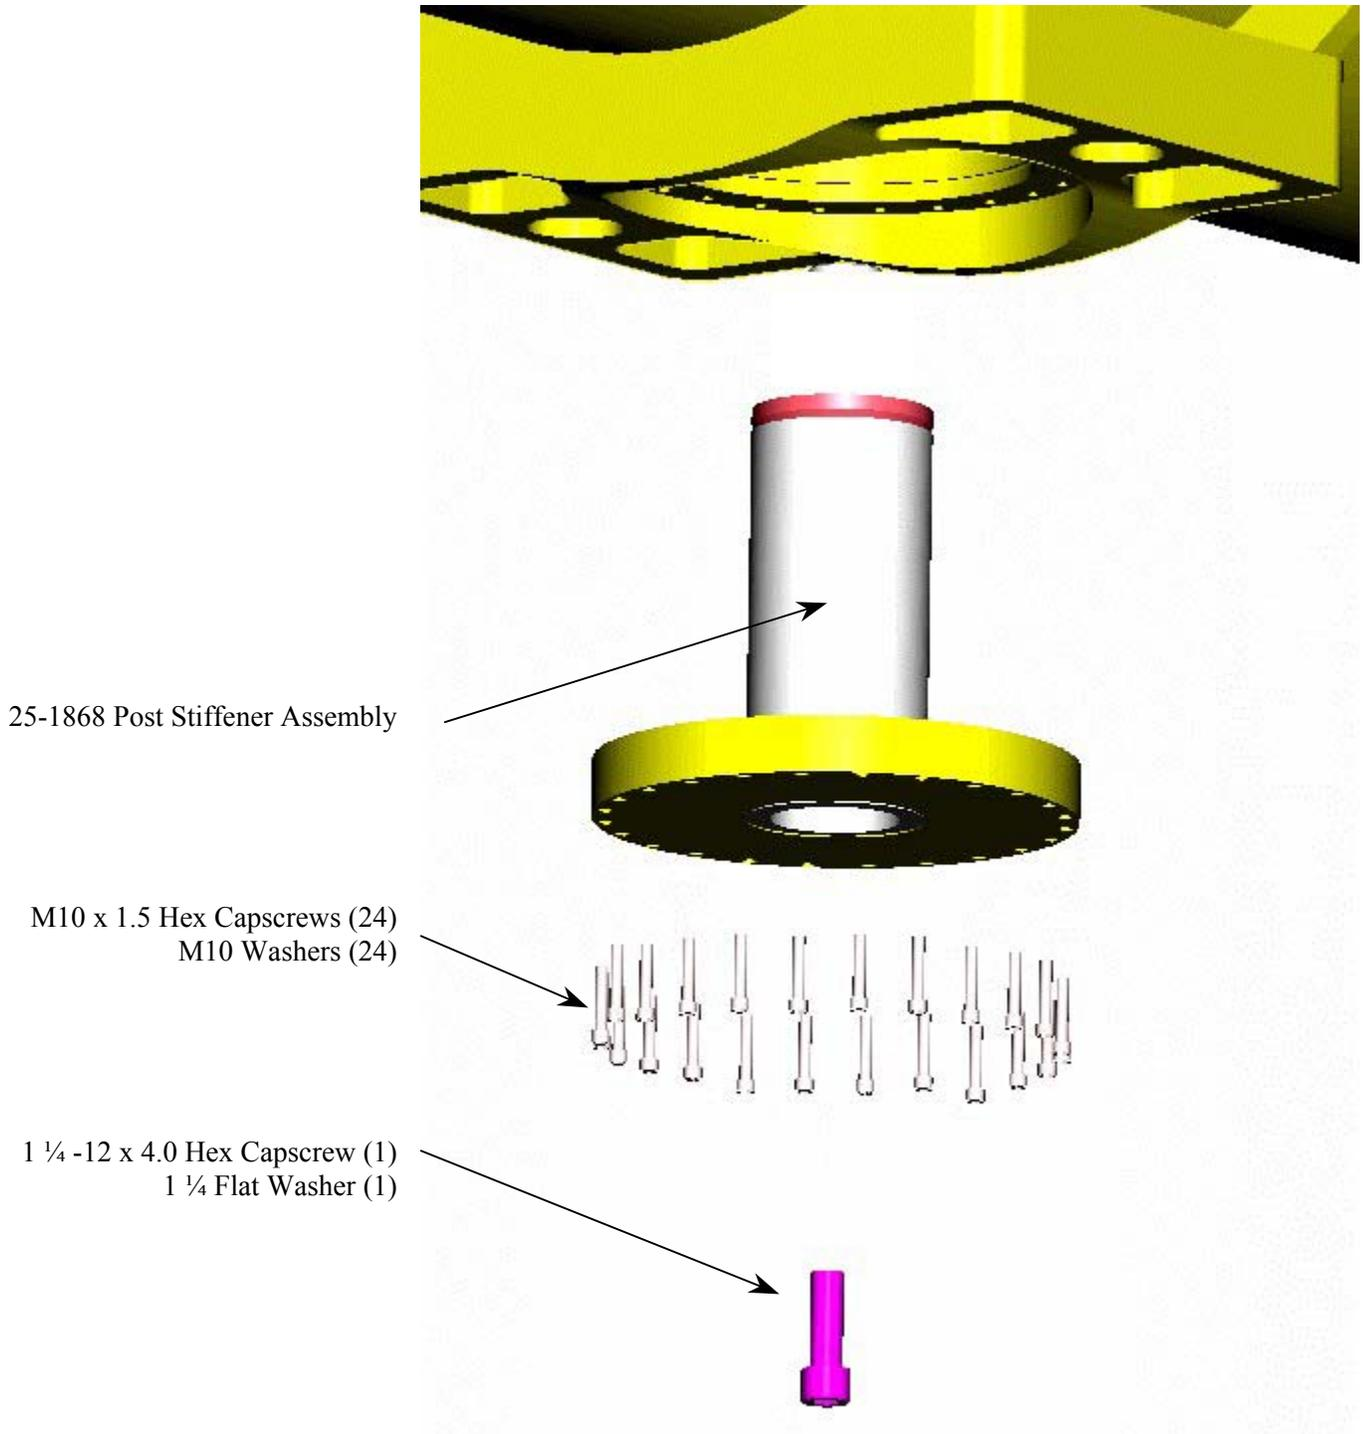

Figure 2
4.2.1 See Figure 2. Lower the threaded plug at the top of the stiffeners using spanner wrench to ensure top of post stiffener will not contact the bottom of the cradles during installation.